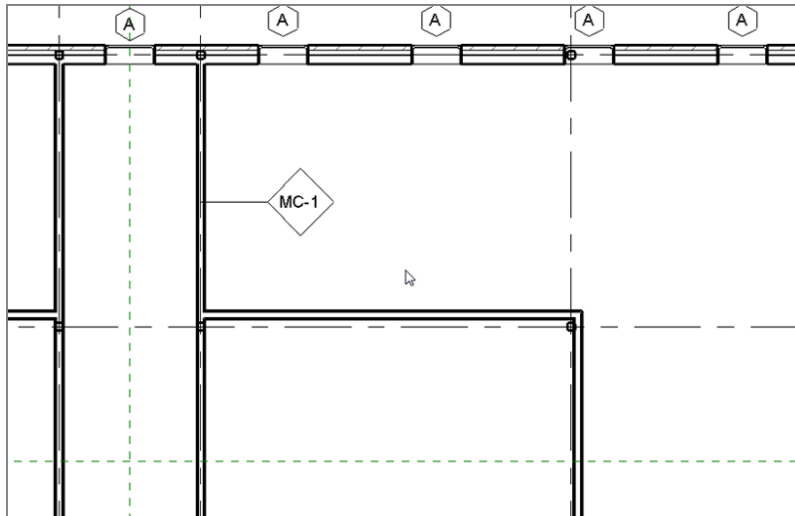

FIGURE 11.65: Adding the wall tag data
18. Call it **MC-1**, as shown in Figure 11.65.